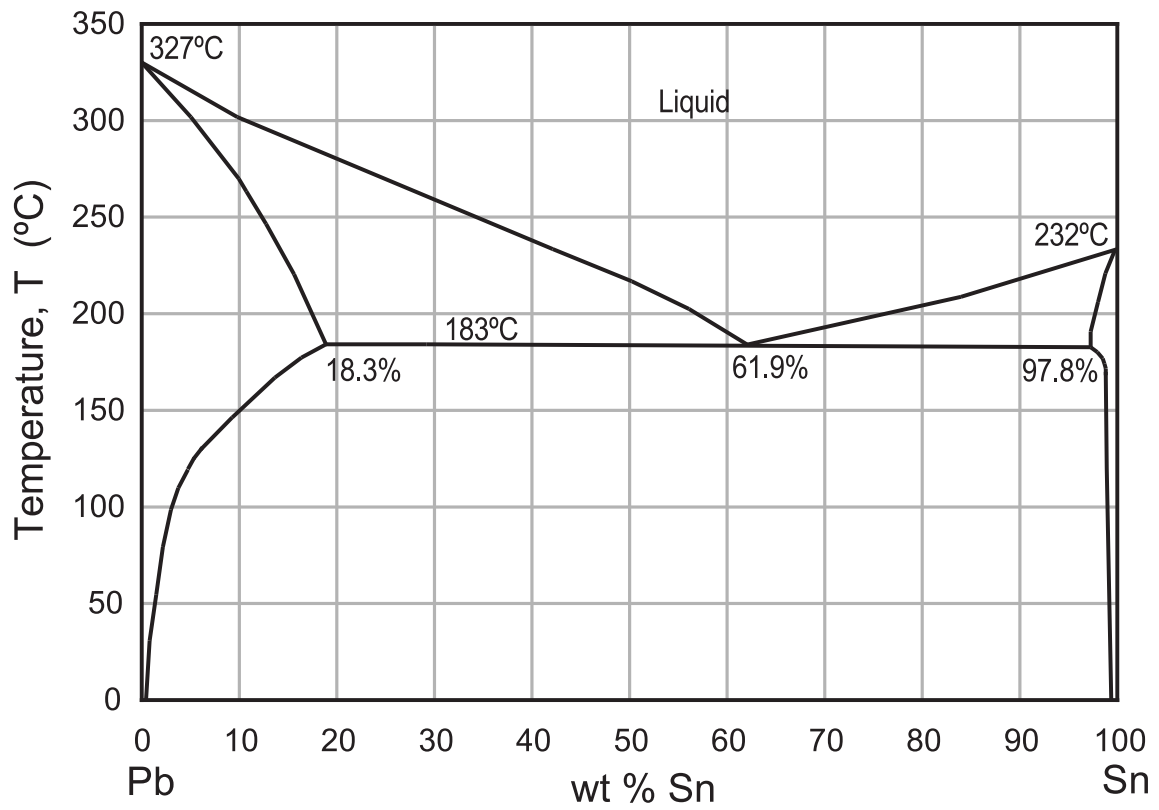

Fig. 1
- 1 (a) Figure 1 shows the PbSn phase diagram.